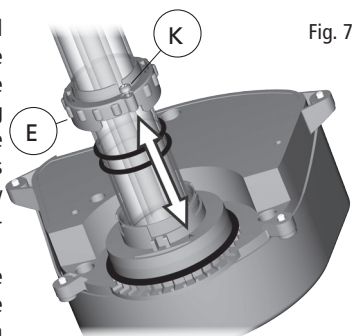
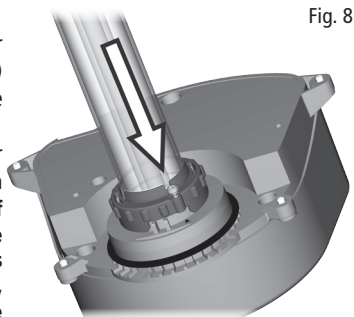
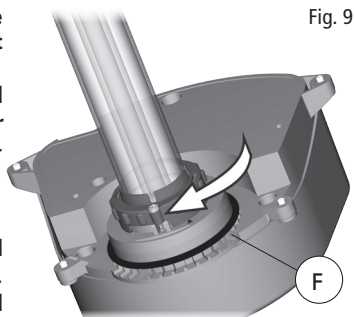

Fig. 7
Fig. 8
Fig. 9
- At this stage it is possible to clean the quartz sleeve (C), if required. **To clean the quartz sleeve, use a damp soft cloth to wipe away limescale and debris. In case of stubborn dirt, some vinegar may be used. Do not use detergents or other chemical cleaners. If it is not necessary to change the UV-C lamp, go straight to point #10.**
- To access the UV-C lamp (B), remove the Quartz Sleeve (C) by first unscrewing, about 3 turns, the security screw (K) of the Retaining Flange (E) that fasten it to the UV-C head. Afterwards turn the Retaining Flange approx 30 deg counterclockwise until the screw is aligned with the arrow present in the UV-C head and pull to disengage it from its place. Important: the Retaining Flange is equipped with one anti-loss safety screw. There is no need to remove the screw completely. Just unscrew the screw until the Retaining Flange is free to be turned and disengaged from its position.
- Once the Quartz Sleeve is removed, pull out the UV-C lamp (B) away from the lamp holder (if it is not the first start-up) and replace it with a new one. **WARNING - DO NOT ATTEMPT TO VIEW THE LAMP WHEN LIT!** Direct exposure to ultraviolet light can damage eyes and skin. Do not test the UV-C lamp unless the filter is fully assembled and closed. **IMPORTANT** – Use original Laguna spare parts only. Refer to the Spare Parts List for correct part number identification.
- Place the Quartz Sleeve (C) and the two O-rings (D) back in their original position. It is recommended to lubricate the O-Rings with an appropriate lubricant. **IMPORTANT** – The Lamp Damper (Y) inside the quartz sleeve must be between the lamp and the bottom of the quartz sleeve. Do not remove it. **IMPORTANT** – **The two O-rings (D) of the quartz sleeve (C) must be replaced every time the unit is opened.**
- Place the retaining flange (E) in its original position. Simply align the screw with the arrow and press the flange towards the UV-C head, then turn the Retaining Flange approx 30 deg clockwise in the direction the security screw (K). At this time fasten the Retaining Flange by screwing the security screw (K) (Fig. 7 - Fig. 8 - Fig. 9).